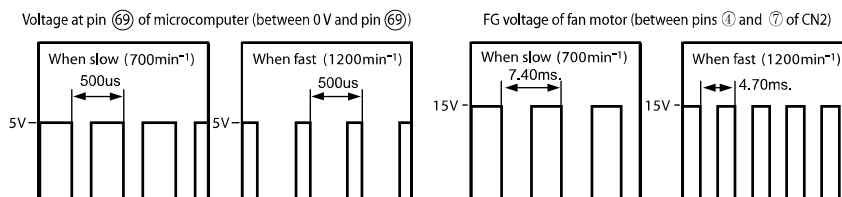

Fig. 3-2
- The VS receives a command voltage from the microcomputer. The VS terminal undergoes an analog voltage that matches the Lo level time ratio of the pulse signal from pin ⑥ of the microcomputer. (See Fig. 3-2.)